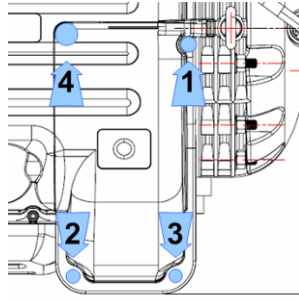

Figure 9 – Mains Input Cover Torque Sequence
20. Place the Mains Input Cover and secure it with the M5x15 fasteners. Tighten according to Figure 9 (Mains Input Cover Torque Sequence).